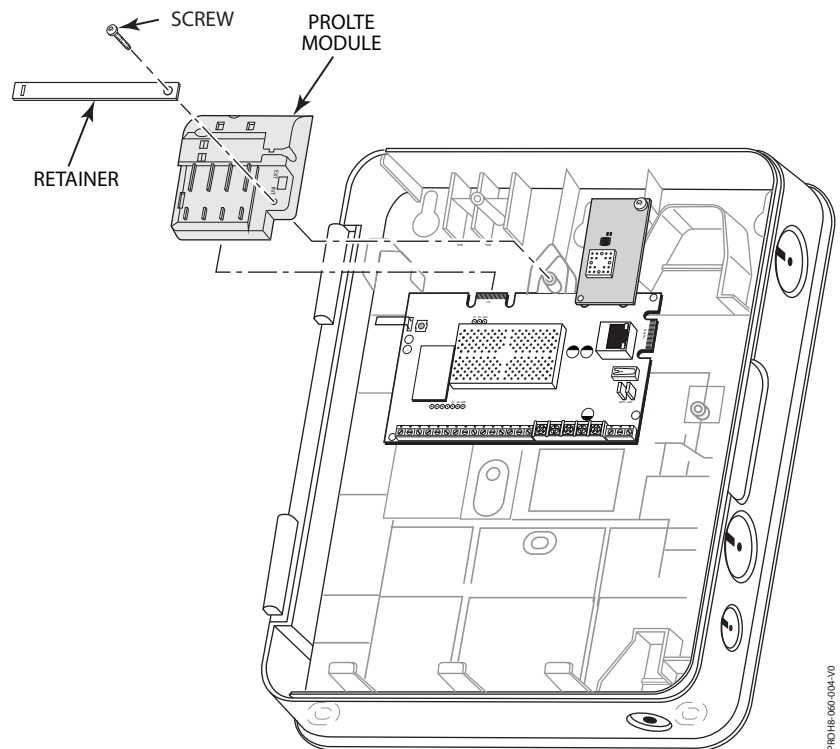

Figure 4. Installing the PROLTE Module
5. Install the PROLTE Series module on the edge connector on the PCB (refer to Figure 4). Ensure the receptacle is securely seated on the edge connector.